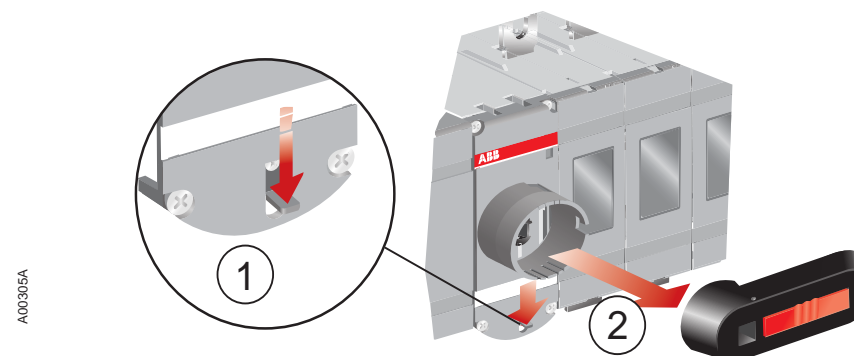

Figure 5-4 Release the handle
1. Release the handle from the switch panel by pushing down the locking latch under the switch panel and pulling the handle off, see Figure 5-4